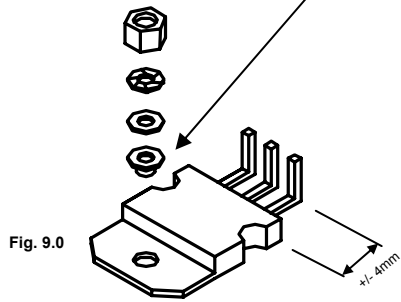

Fig. 9.0
- Carefully bend the leads, see fig. 9.0